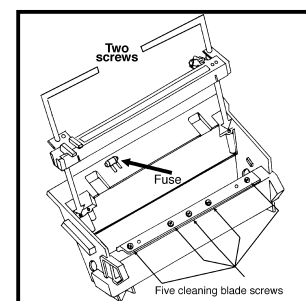

Figure 3
4. Remove the corona assembly (2 screws - Fig. 3). Clean, inspect and replace if necessary.